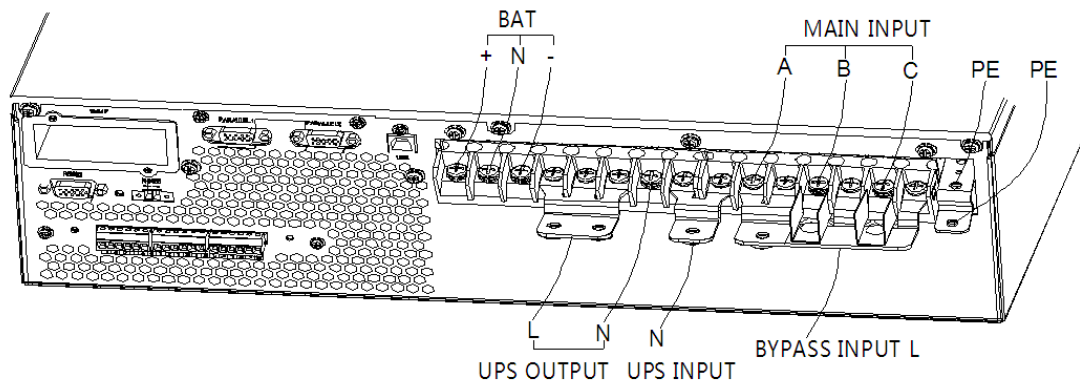

Fig. 3-15 3 phases in 1 phase out, common input
2. Short-circuit mA, bA, bB, bC with No.6 copper bar; Short-circuit BAT-N, oN, bN, mN with No.7 copper bar; Short-circuit oA, oB, oC with No.4 copper bar. As shown in figure 3-15,